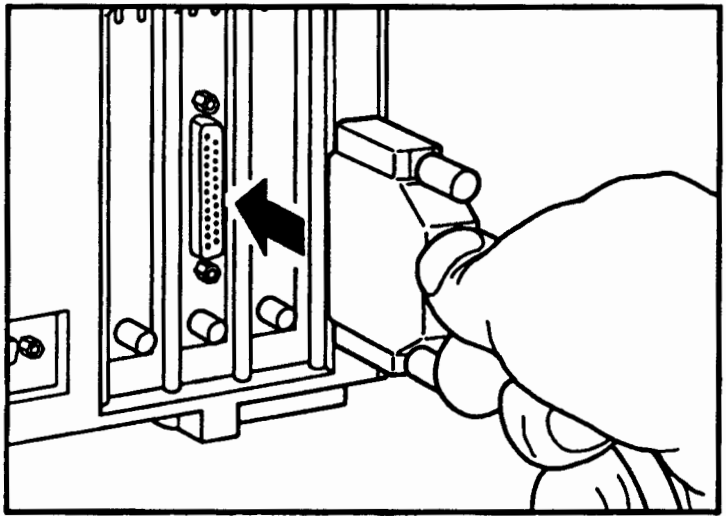

Figure 4-6. Connecting the Interface Cable to the Computer
1. Attach the small end of the interface cable to the connector on the scanner adapter that you installed. See figure 4-6.